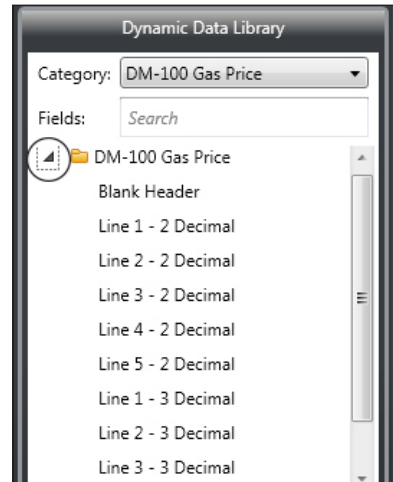

Figure 10: DM-100 Gas Price Options
14. Click the **right-pointing arrow** next to the DM-100 Gas Price folder in the Dynamic Data Library, as shown in **Figure 10**. You should see the following fields.